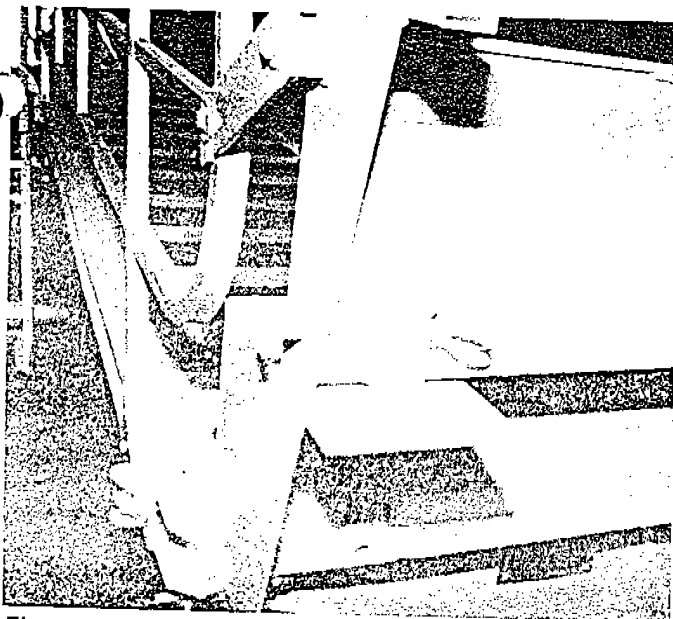

Fig. 74
- b. Store the jack stands in the sockets under the step. *Snap Key in Place.* (Fig. 74)